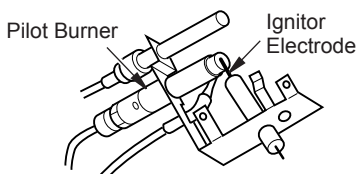

**Figure 32 - Control Knob and Ignitor Button Location (Shown as Supplied, No Control Options)**
- Wait five (5) minutes to clear out any gas. Then smell for gas, including near the floor. If you smell gas, STOP! Follow "B" in the safety information, page 19. If you don't smell gas, go to the next step.
- Press in and turn control knob counterclockwise  to the PILOT position. Press in control knob for five (5) seconds (see Figure 32).